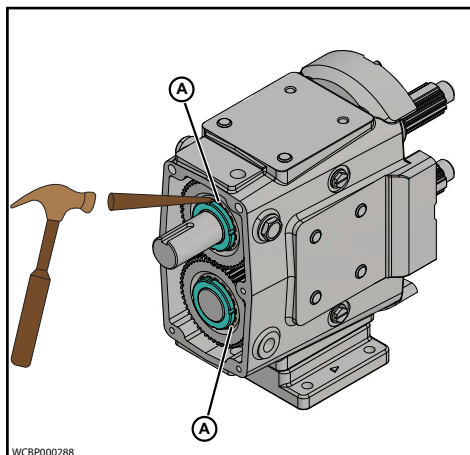

Figure 69 - Straighten Lock Tab
6. Straighten the tab on the lock washers (Figure 69, item A).